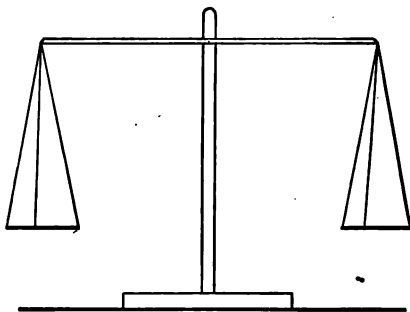

FIG. 4
28. Weigh any object on common scales. (These may be easily made, Fig. 4.) Transpose object and weights. Do they still balance? State how we make use of gravity in weighing by this means.